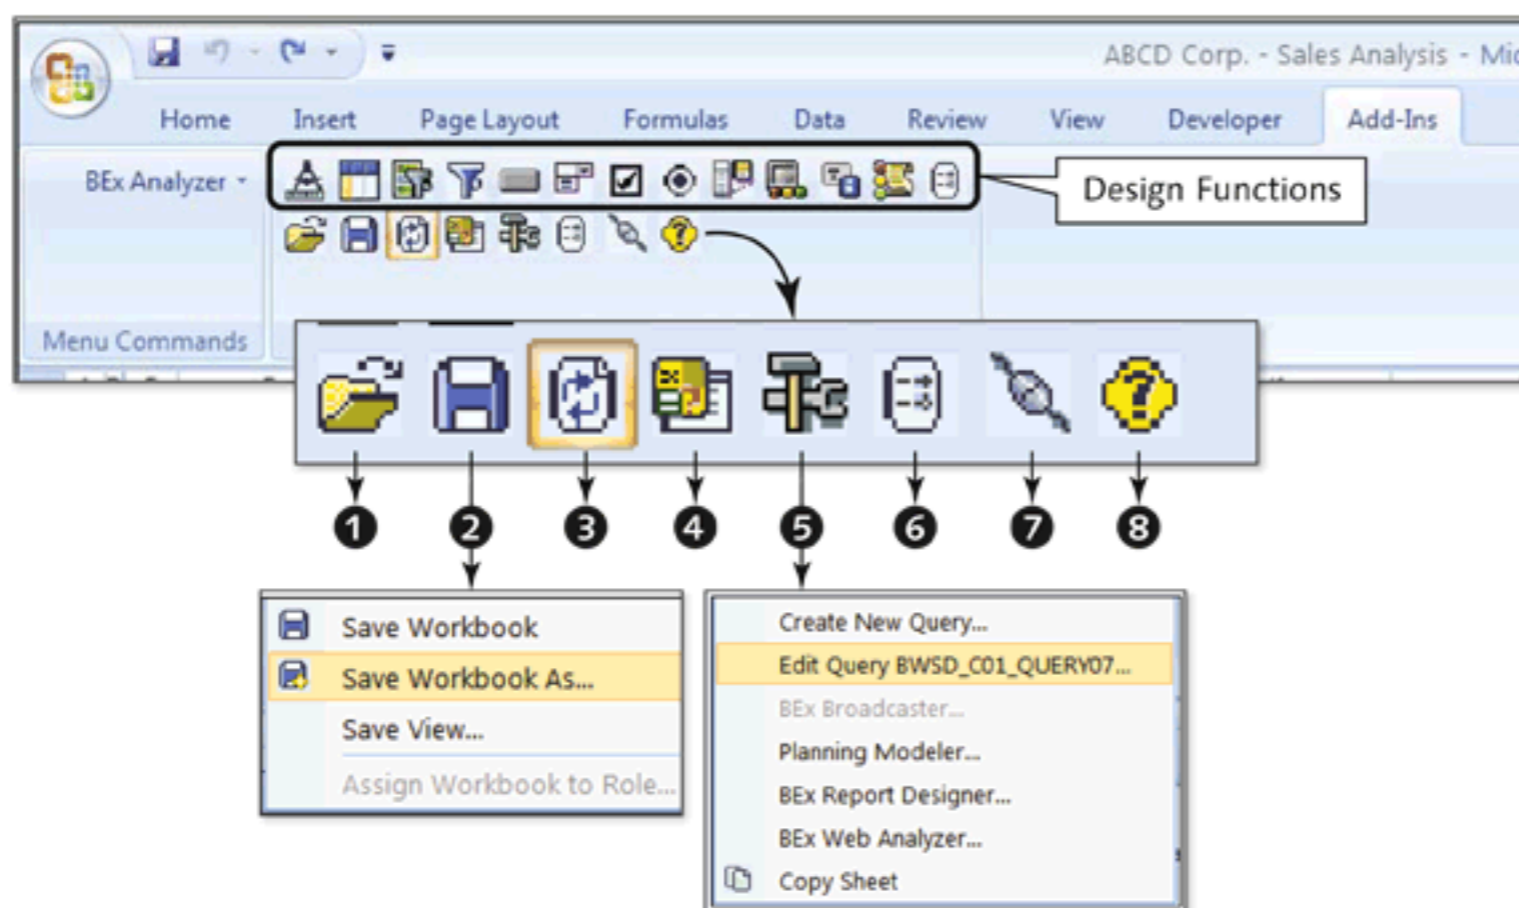

Figure 10.10 BEx Analyzer Analysis Toolbar
BEx Analyzer has two different sets of functions available in the form of two different toolbars: the DESIGN toolbar and the ANALYSIS toolbar. As shown in the boxed area of Figure 10.10, the top part of the BEx Analyzer functions are design functions and constitute the DESIGN toolbar. The lower part of the BEx Analyzer functions constitute the ANALYSIS toolbar (shown enlarged in Figure 10.10). The significance of each of these buttons on the ANALYSIS toolbar is discussed next.
This button is used to open an existing query or workbook in BEx Analyzer (❶ of Figure 10.10).